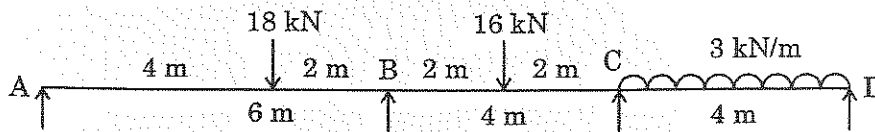

Fig. Q. 14(a)
14. (a) Analyse the continuous beam shown in Fig. Q. 14(a) using the Theorem of three moments.